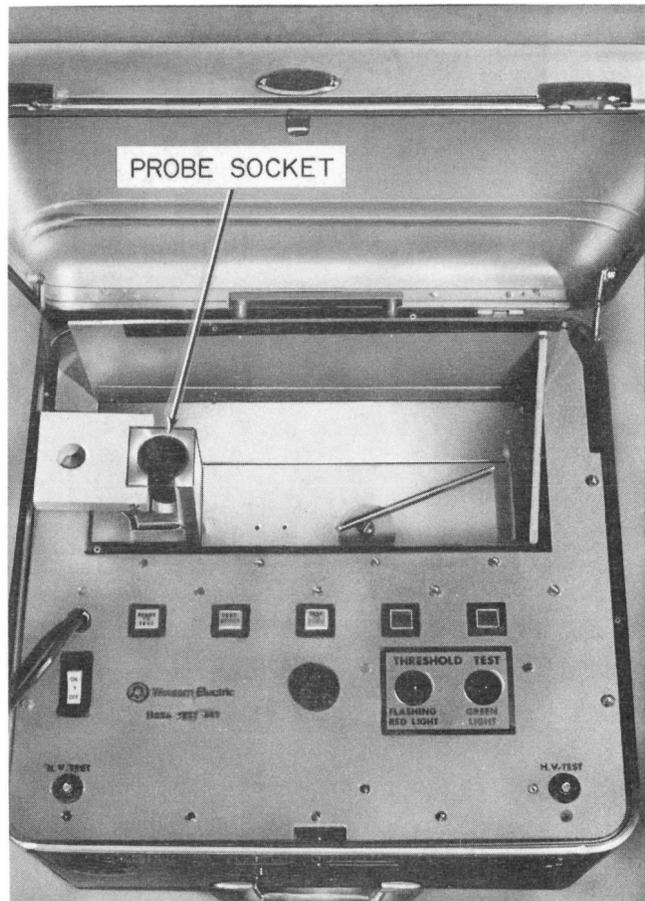

Fig. 3—Probe Socket
- Open test lid and raise probe socket (Fig. 3).